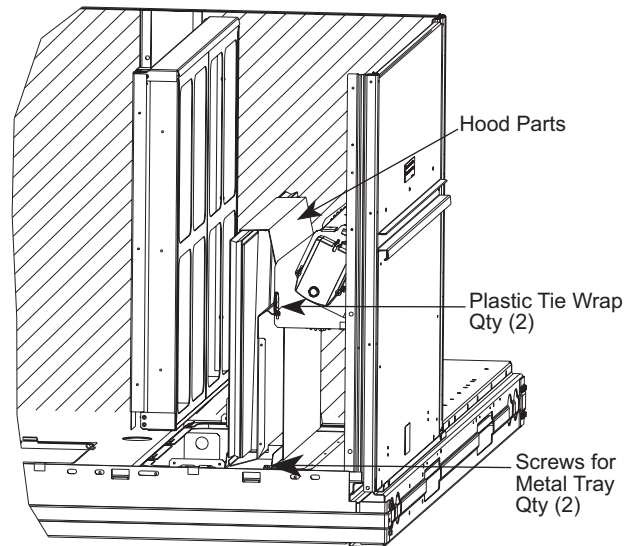

Fig. 10 — Economizer and Two-Position Damper Hood Parts Location
2. Locate the (2) screws holding the metal tray to the basepan and remove. Locate and cut the (2) plastic tie-wraps securing the assembly to the damper. See Fig. 10. Be careful to not damage any wiring or cut tie-wraps securing any wiring.